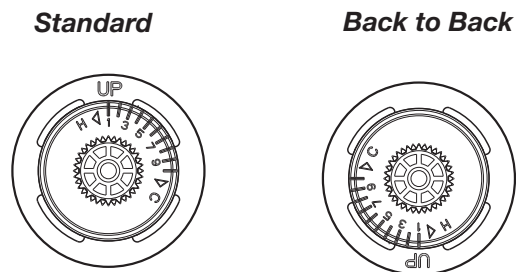

Figure 2.
BACK TO BACK INSTALLATION (FIGURE 2, 3 & 3A)
- Rotate CARTRIDGE (1) 180° so that the Up text is displayed on the bottom side. As shown in **FIGURE 2**.